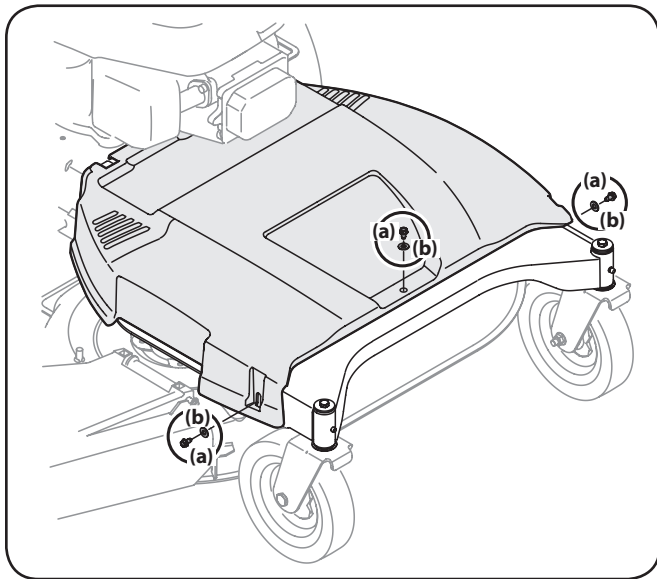

Figure 6-5
1. Remove the belt cover by removing the three screws (a) and washers (b) which secure it to the frame. See Figure 6-5.